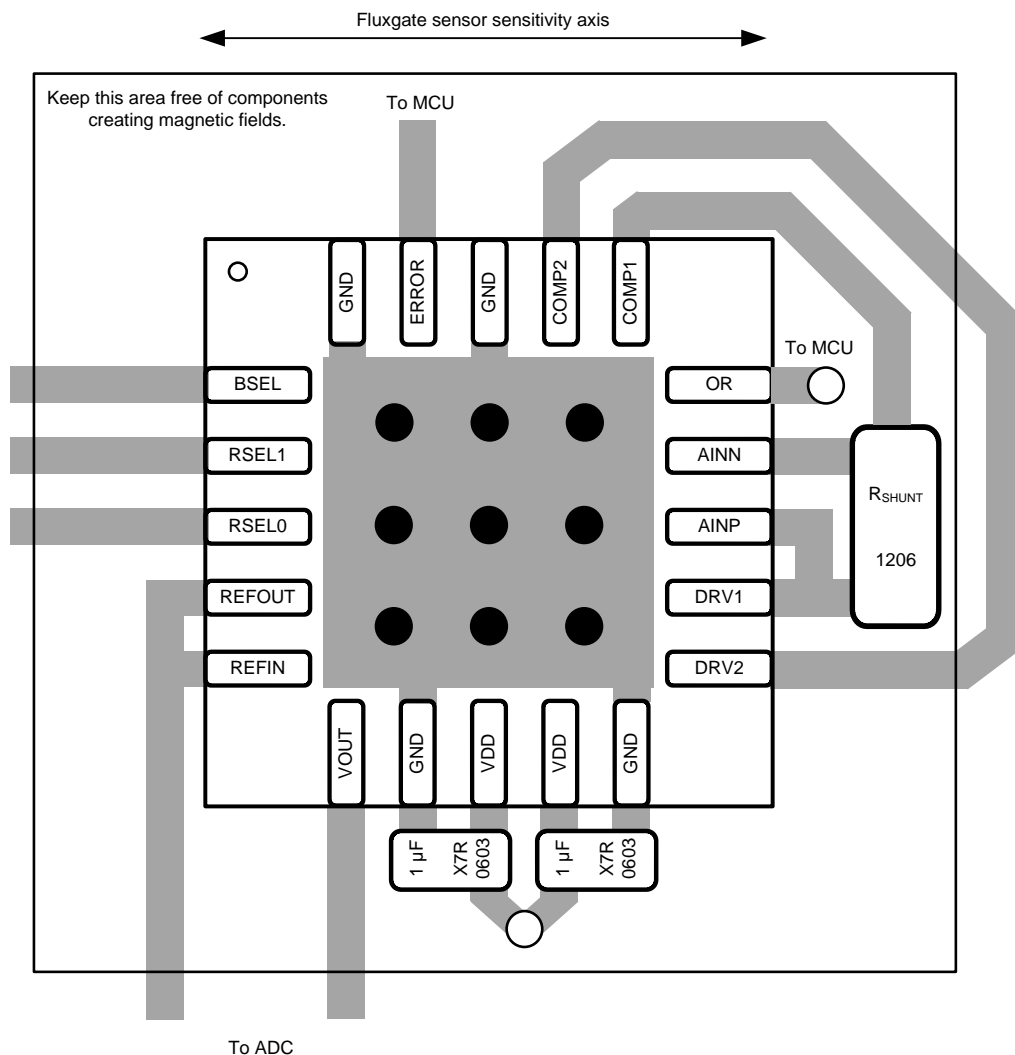

Figure 76. Generic Layout Example (Top View)
Decouple both VDD pins of the DRV425 with 1- $\mu$ F, X7R-type ceramic capacitors to the adjacent GND pin as illustrated in Figure 76. For best performance, place both decoupling capacitors as close to the related power-supply pins as possible. Connect these capacitors to the power-supply source in a way that allows the current to flow through the pads of the decoupling capacitors.
- Route currents parallel to the fluxgate sensor sensitivity axis as illustrated in Figure 76. As a result, magnetic fields are perpendicular to the fluxgate sensitivity and have limited effect.
Figure 76 illustrates a generic layout example that highlights the placement of components that are critical to the DRV425 performance. For specific layout examples, see the *DRV425EVM Users Guide*, SLOU410.